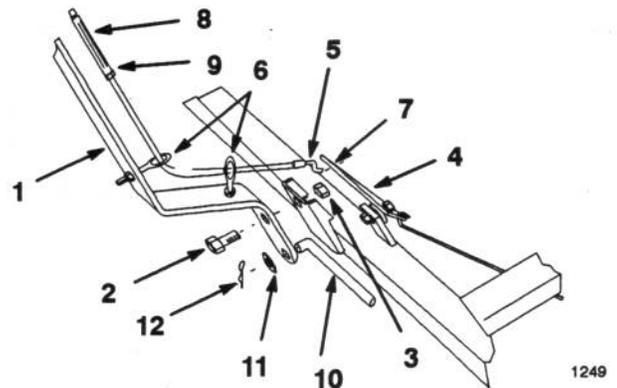

Figure 5
- Attach index lever from kit to frame bracket with previously removed bolt and nut (Fig. 5).
- Attach index plate from kit to frame with previously removed bolt and nut (Fig. 5).
- Route cable through eyelets and attach "Z" ends to outer holes of index plate (Fig. 5) and release lever.
- Adjust turnbuckle so the index pin is pulled out of channel when the release lever is squeezed, for easy side-to-side movement (Fig. 5). Tighten jam nut securely.
- Attach control rod to index lever with washer and hairpin cotter. (Fig. 5).